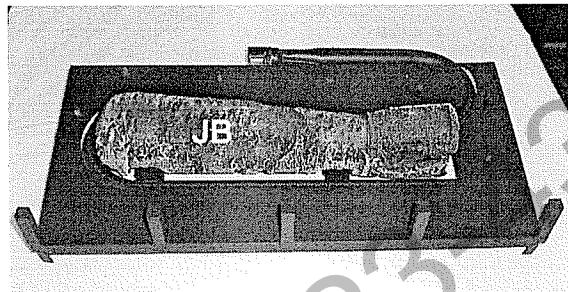

FIGURE 11D
#936 DV LOG INSTALLATION. See Figures 11D -11F.
1. Align the notches in the bottom of the 'JB' log onto the brackets in the center of the burner cover as shown in figure 11D.